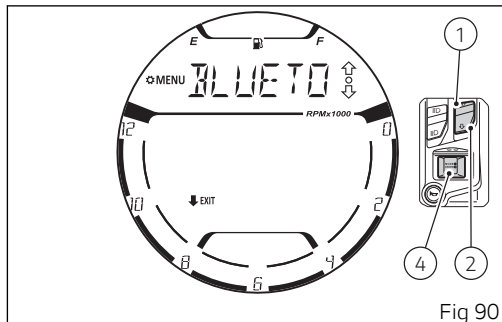

Fig 90
On entering the function (Fig 90), use button (1) and (2) to select from the list the device that you wish to delete and press button (4) to proceed with the deletion.